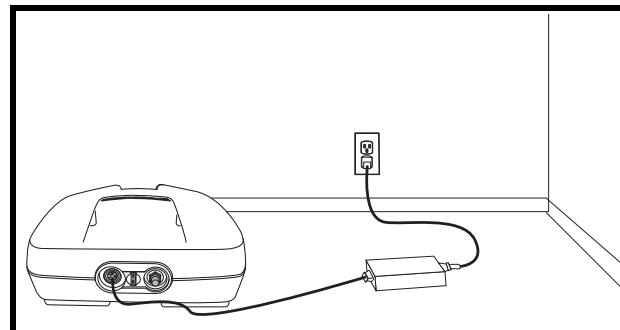

Figure 12. Charging The Batteries (Battery Pack Removed)
1. Position your Travel Scooter or battery pack close to a standard electrical outlet. See **figure 12**.